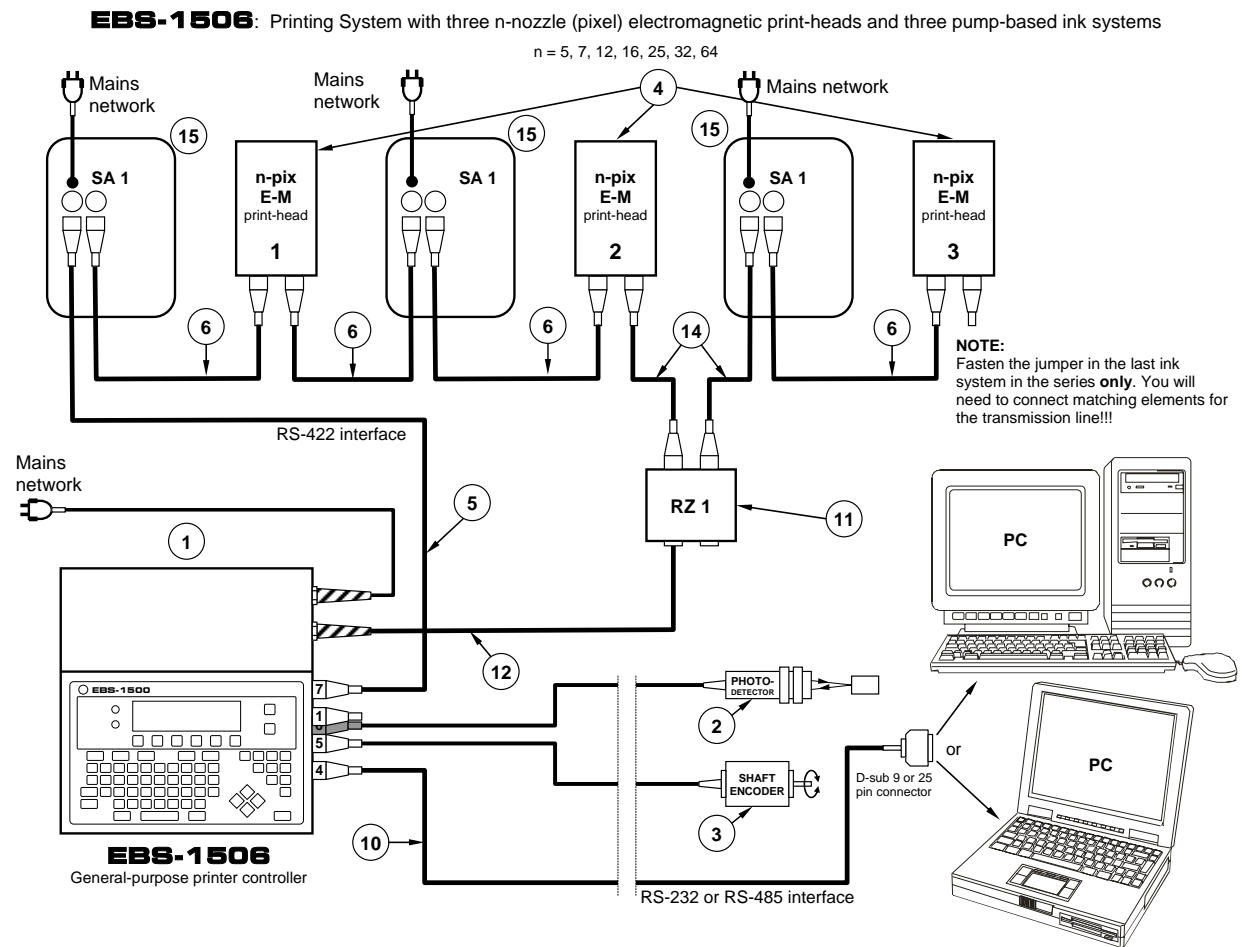

Fig. 4.2.5. Connection diagram for a printing system with three electromagnetic print-heads and three ink systems with ink pumps.
- The printing system shown in **Fig. 4.2.5** is an illustration of how to connect the system elements. The system will work properly only when the requirements presented in section **4.1 Restrictions on Printing System Configuration** are satisfied and when it is designed in compliance with the guidelines given in section **4.7 Rules for designing a multi-head printing system**.